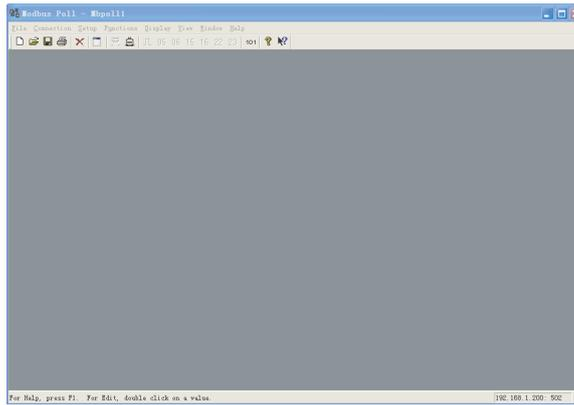

Fig.3.7
1) Choose "Connection"->"Connection" in figure 3.7, and then chose TCP/IP in the pop-up window:
Choose button **16** in Fig.3.7, as shown below: